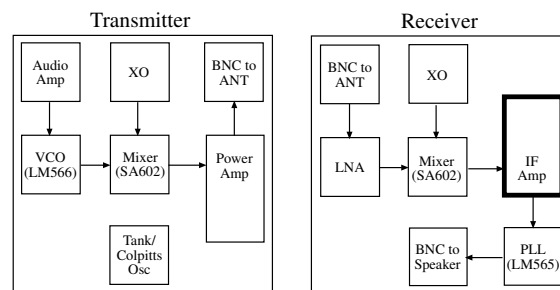

Figure 1: How the IF amp and filter fits into your circuit
As you can see from Figure 1, the IF Amp will be taking the output of your multiplier and amplifying it so that your PLL can still track your input signal.
- **Soldering Tips:** Solder up the filter you designed on your receive board (refer to the roadmap in Figure 1 for the proper location). Also, be sure when laying out the circuit to keep in mind that the final incarnation will consist of 1 IC (containing the two op-amps), several resistors for